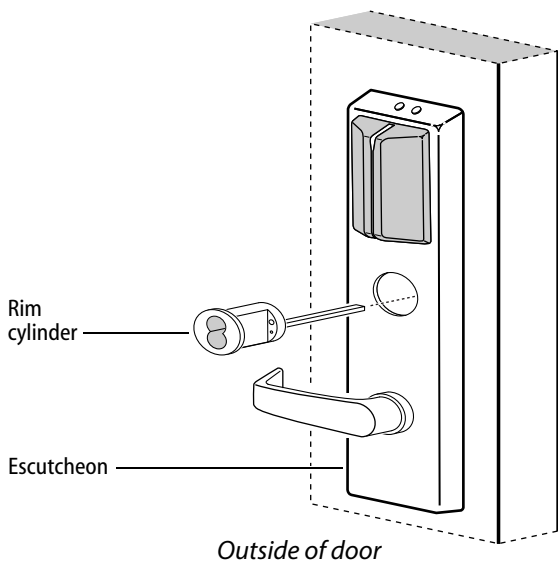

Figure 10a Installing the cylinder
- 2 Insert the cylinder through the cylinder opening in the escutcheon and into the door as shown in Figure 10a.